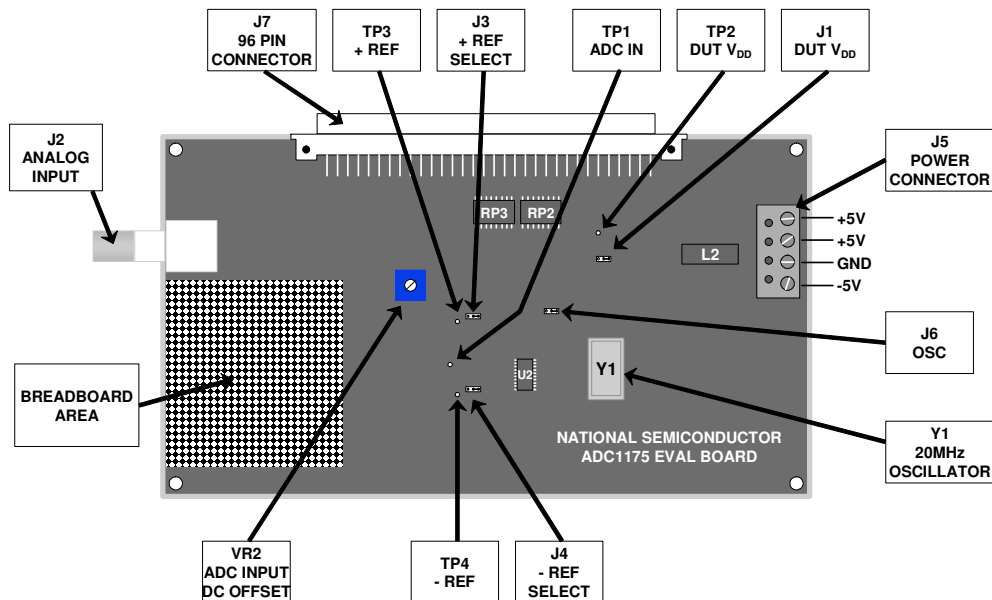

Figure 1 ADC1175-50 Eval Board
The ADC1175-50 Evaluation Board comes fully assembled, but there are components that are intentionally not mounted. The purpose of these components may be gleaned by comparing the schematic of this board with the schematic of the ADC1175 (20 Msps device) evaluation board schematic. Refer to *Figure 1* for the location of major components, to Bill
1. Be sure that all jumpers are in their default positions, as shown in *Figure 1*.
Follow these steps to operate the board in the Computer mode. Refer to *Figure 1*.